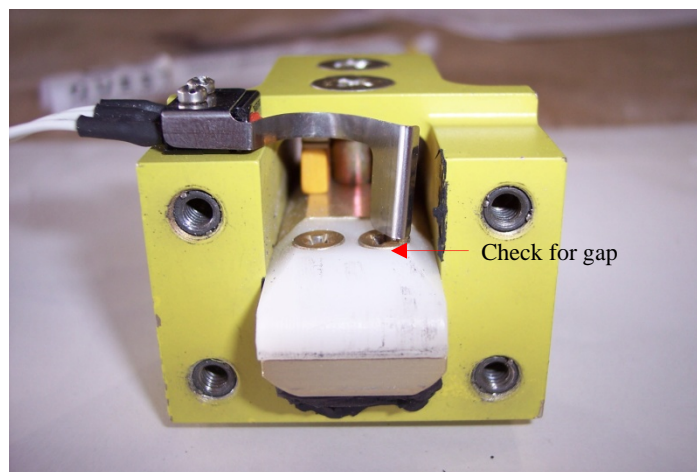

Figure 5-5. Actuator Arm/Wear Pad Clearance
4. Verify clearance throughout full travel of actuator arm, ensuring that it does not catch on the wear pad or other components (**Figure 5-5**). Adjust actuator arm as needed.